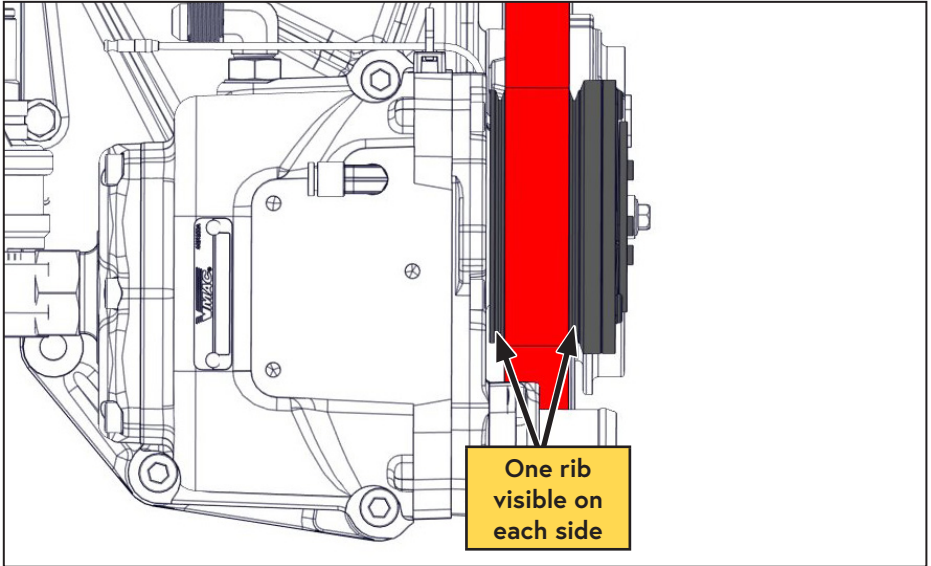

Figure 12 — Align belt on clutch
- Ensure the 6 rib belt is centered on the 8 rib compressor clutch. One clutch rib should be visible on each side of the belt (Figure 12).